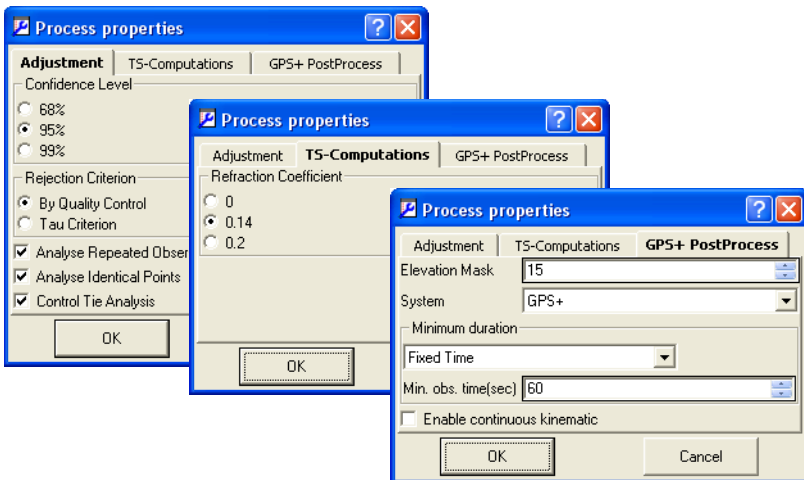

Figure 6-1. Process Properties
- Confidence level for the adjustment process: either 68%, 95%, or 99% (Figure 6-1). The default confidence level is 95%.
3. On the *TS-Computations* tab, select the refraction coefficient: either 0, 0.14, or 0.2 (Figure 6-1). The default is 0.14.
4. On the *GPS+ PostProcess* tab, select the elevation mask, combination of navigation system, and minimum observation time for the processing (Figure 6-1).
By default, the display and processing of GPS kinematic data is turned off. To display and process GPS kinematic data, select the “Enable continuous kinematic” checkbox on the *GPS+ PostProcess* tab (Figure 6-1). This tab can be accessed in either the *Job Configuration* or *Process properties* dialog boxes.